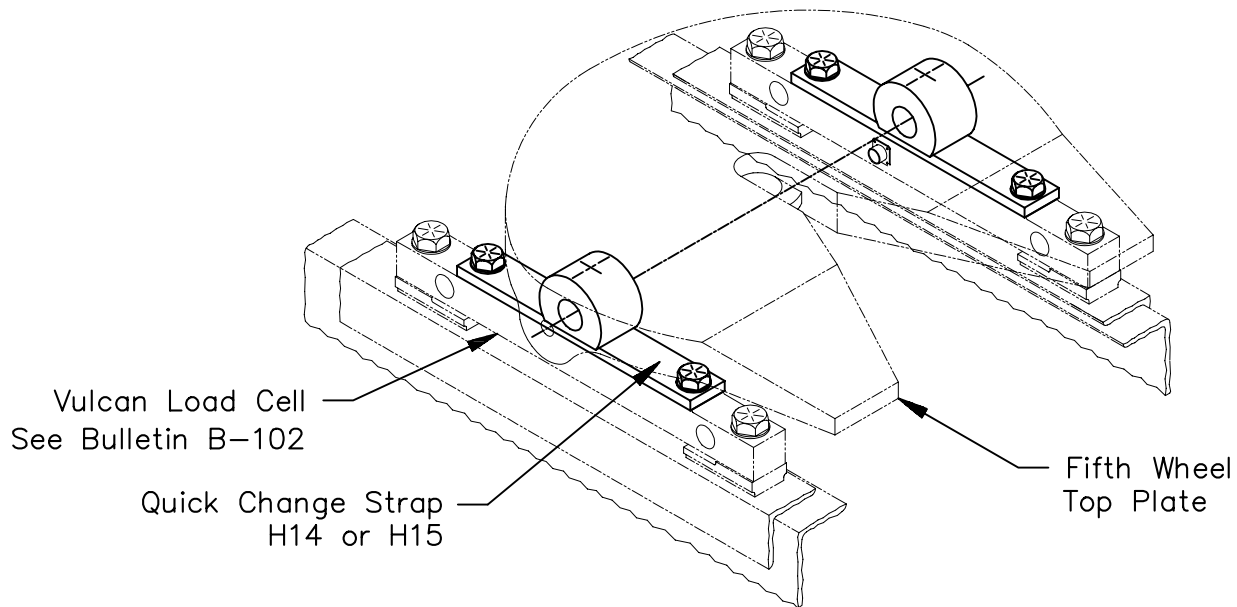

FIG 124-B
1. Position the special machined cap screw (identified by its shorted head height) through the opening in the knob, and insert screw threads through the center hole in the quick change strap base. **The captive center fastener must be installed for safe operation of the quick change strap. See figure 124-C.**